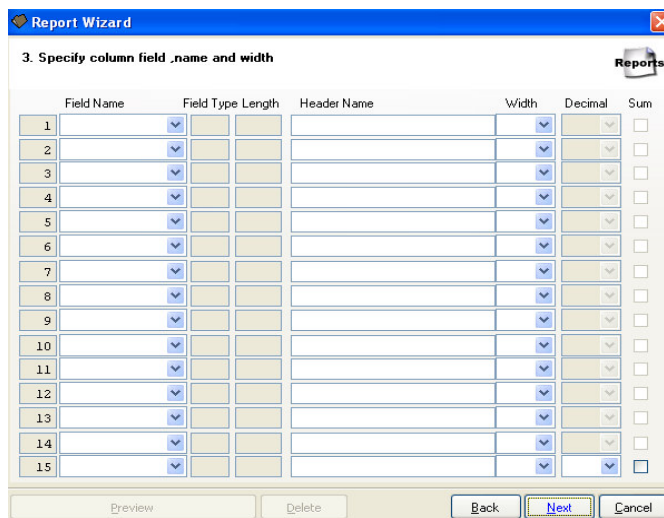

Fig 3.10b
2. Then select type of report followed by the selection of fields for that report. (Fig 3.10b.)